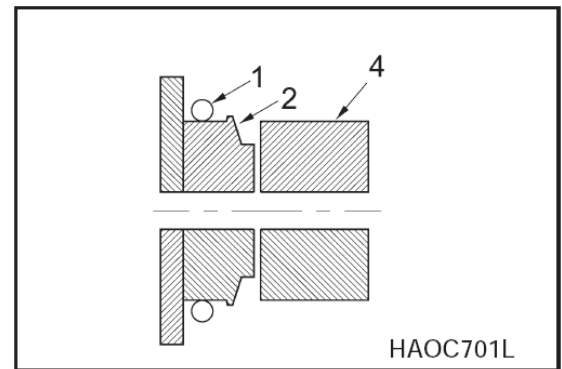

Fig.9
5. Install new O-ring seal 1(1, Fig. 9) into O-ring seal.